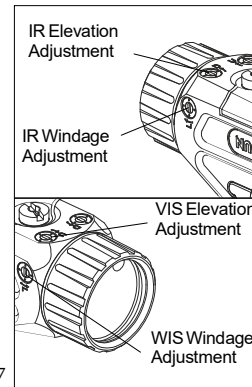

Fig 7
1. The elevation adjustment screws (U, D) are located on the lower part of the housing and the windage adjustment screws (L, R) are located on the left and right sides of the housing (see figure 7). Before leaving the factory, the sight has been mechanically zeroed to approximately 25 yards.